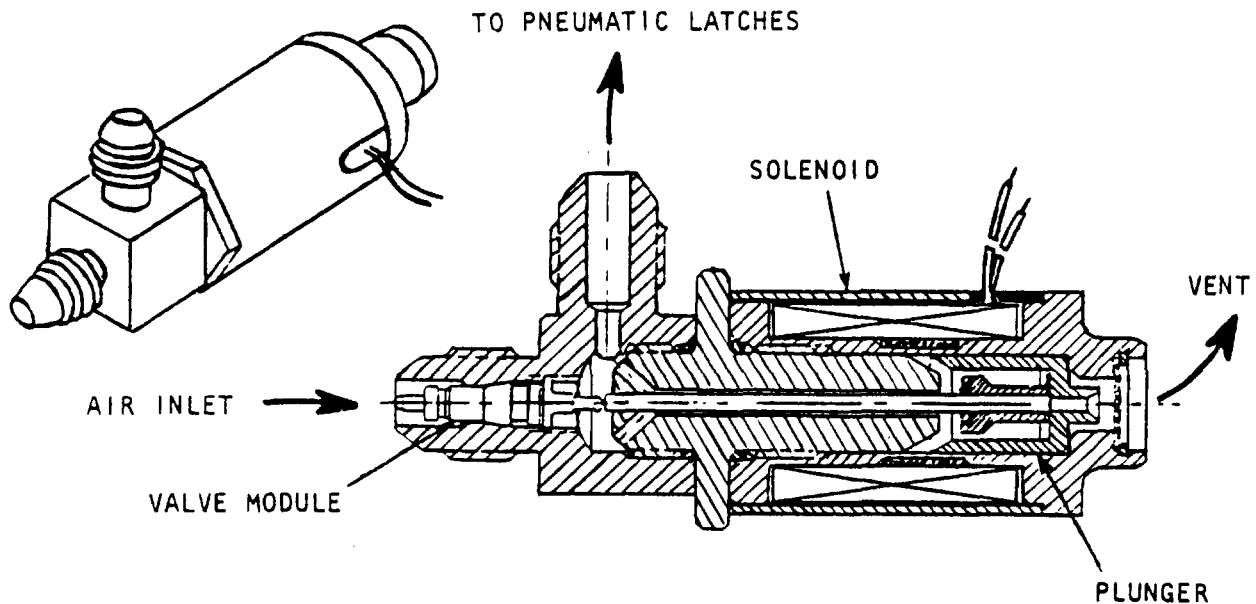

Figure 1 - Pnuematic Latch Control Solenoid Valve
1. Description. The pneumatic latch control solenoid valve is mounted at approximately the 6 o'clock position in the aft nacelle (see Figure 6, 78-30-00) between frames 4 and 5. The valve assembly (see Figure 1) primarily consists of a solenoid, a plunger, and a valve module. The valve is "hard-wired" into the electrical harness.